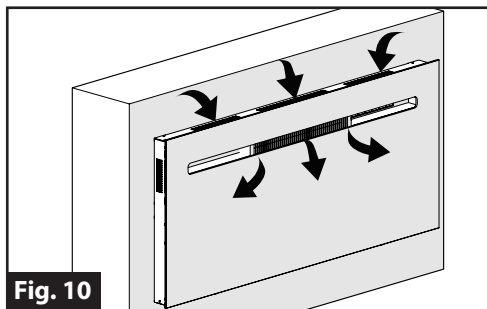

Fig. 10
7. Do not block the ventilation areas. (Fig. 10)